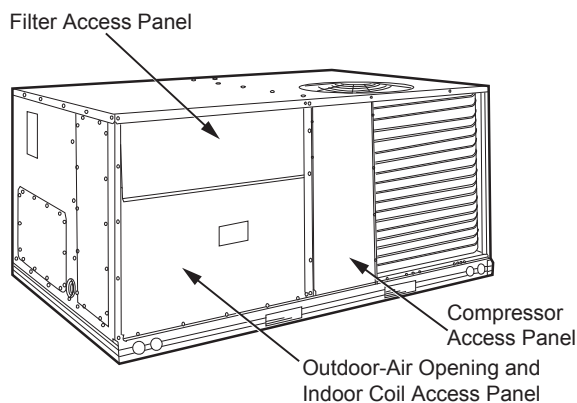

Fig. 9 — Typical Access Panel Locations
1. To gain access to the hood, remove the filter access panel. See Fig. 9.